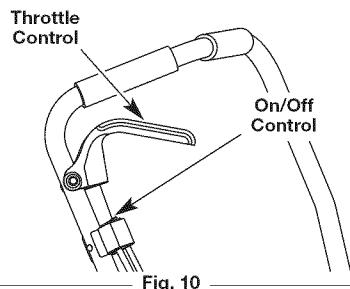

Fig. 10
**NOTE:** There is no need to turn the unit on. The On/Off Control is in the **ON (I)** position at all times (Fig. 10).
- Press and hold the On/Off Control in the **OFF (O)** position until the unit comes to a complete stop. (Fig. 10)